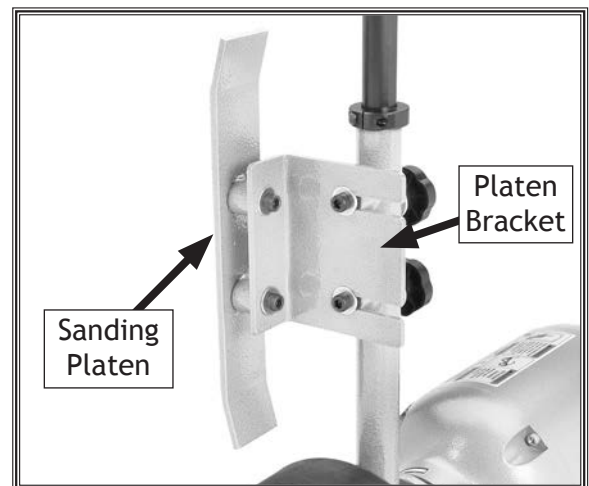

Figure 14. Sanding platen and bracket installed on pivot arm.
- Install the platen bracket onto the pivot arm with the pre-installed hardware, as shown in **Figure 14**.
- Install the sanding platen onto the platen bracket with the pre-installed hardware, as shown in **Figure 14**.